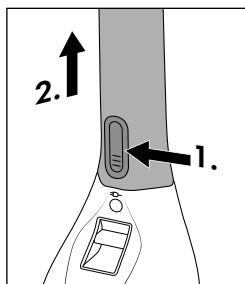

Fig. 3
- ◆ Press the release button **3** and carefully pull the long handle **2** from the motor unit **8** (see fig. 3).